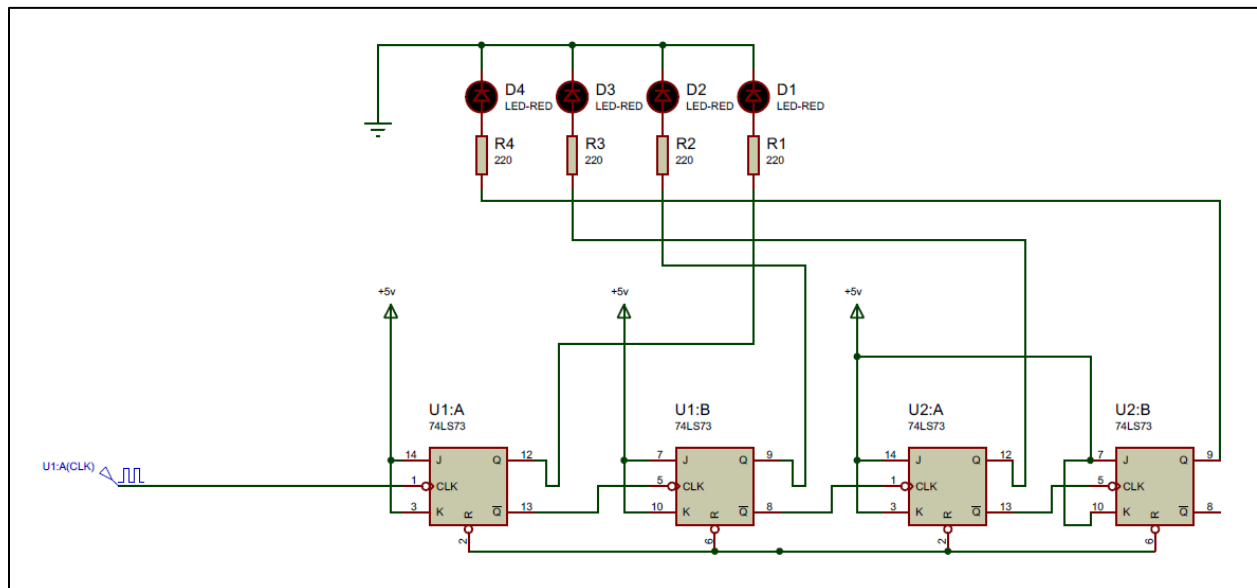

Figure 12-13: Simulation circuit diagram of Hexadecimal Down counter using JK Flip-Flops
STEP 2: Refer Figure 12-13 and study the circuit diagram and its connections. (Proteus simulation circuit diagram too is provided for user's ease of understanding the circuit and as an assistance to conduct simulations using Proteus software)